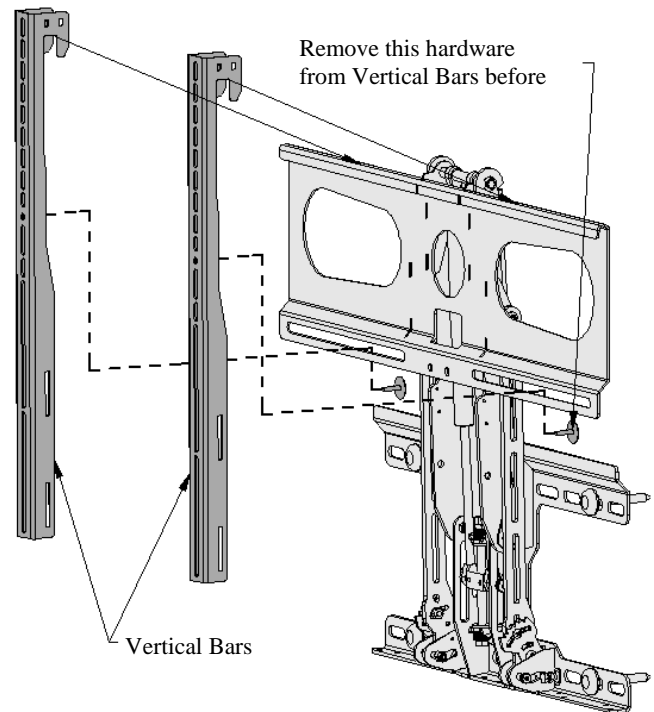

Figure 10, Attaching the Television
3. Hook the Vertical Mounting Bars (with the TV attached to them) over the Screen Back Plate as shown in Figure 10.